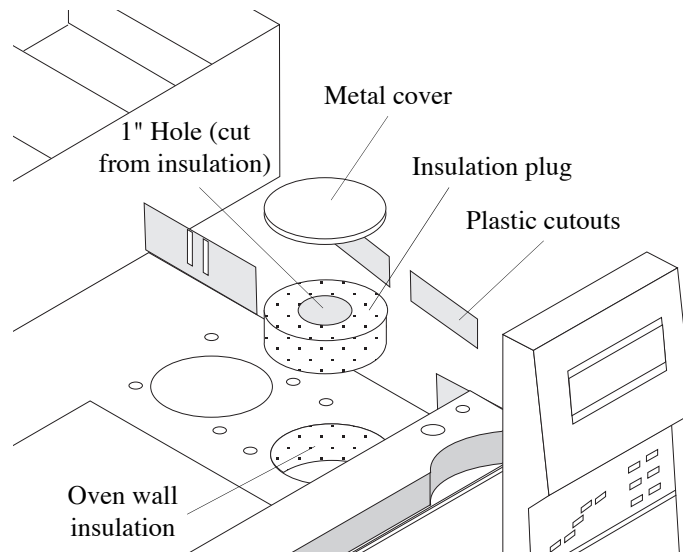

Figure 4.1. Preparing the GC detector port
- If no detector was previously installed in the preferred detector port, remove the plastic cutout to the right of the selected port (Figure 4.1).